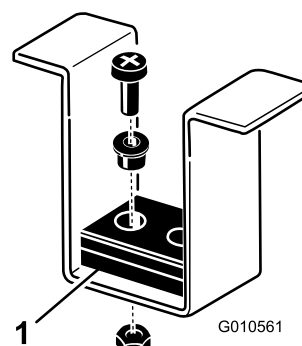

Figure 10
8. Check to make sure that the front height-of-cut pins are resting properly on the frame cushions (Figure 10). If